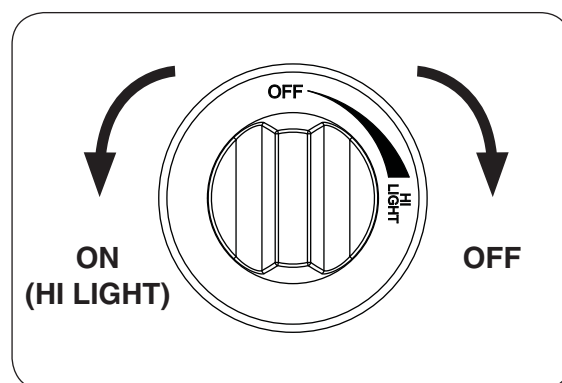

Fig. 21-2
4. **Once the match is burning and in position**, depress the gas control knob and turn it counter-clockwise to the **HI LIGHT** position (see Fig. 21-2). Your burner should light.
To extinguish your gas burner, depress the gas control knob and turn it clockwise to the **OFF** position (see Fig. 21-2). Be sure the control knob is turned fully off to avoid any gas leakage.